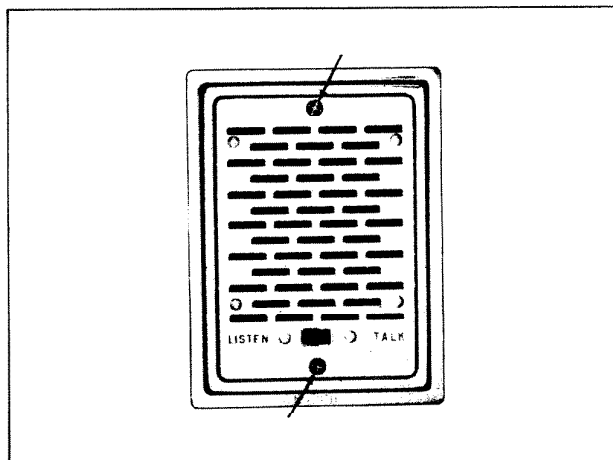

Fig. 7. Model 2006 outside door remote speaker station.
4. Model 2006—3½-inch speaker, outside door remote (Fig. 7)